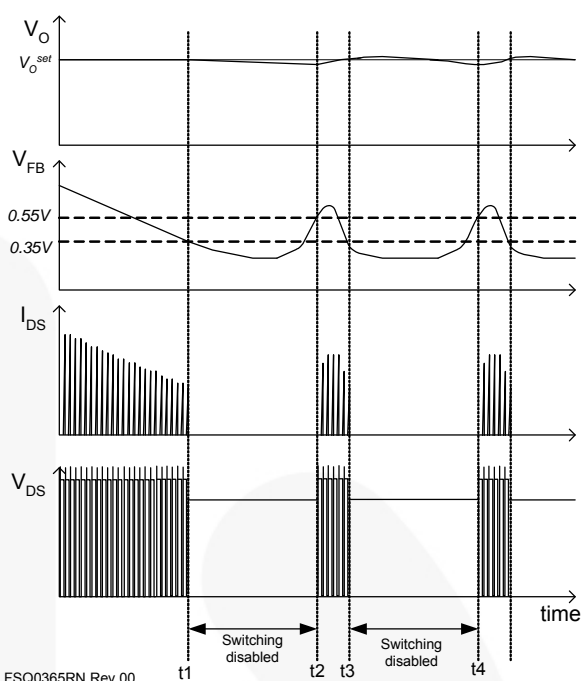

Figure 26. Waveforms of Burst Operation
**6. Burst Operation:** To minimize power dissipation in Standby Mode, the FPS enters Burst-Mode operation. As the load decreases, the feedback voltage decreases. As shown in Figure 26, the device automatically enters Burst Mode when the feedback voltage drops below  $V_{BURL}$  (350mV). At this point, switching stops and the output voltages start to drop at a rate dependent on standby current load. This causes the feedback voltage to rise. Once it passes  $V_{BURH}$  (550mV), switching resumes. The feedback voltage then falls and the process repeats. Burst Mode alternately enables and disables switching of the power SenseFET, reducing switching loss in Standby Mode.